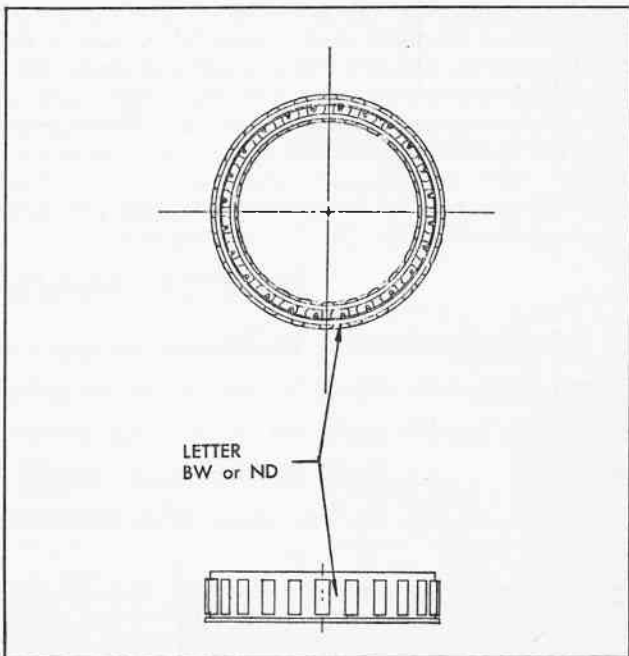

Fig. 19 Front Sprag Identification
- Front Sprag - Extent damaged and identification letter. See Fig. 19.